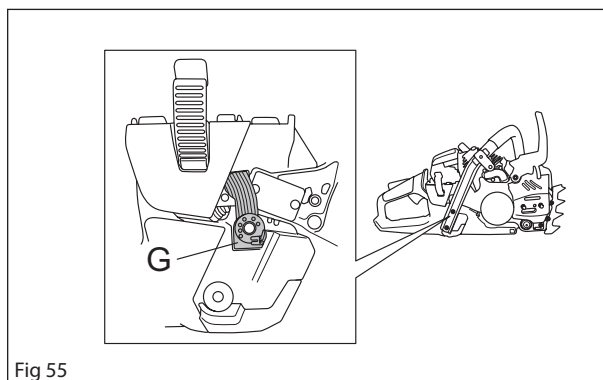

Fig 55
5. Loosen the movement limiter G. See figure 55.
4. Press the movement limiter G into position. See figure 55.